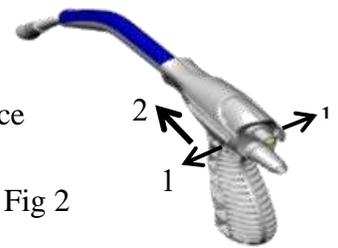

Fig 2
12. To remove the pistol grip, spread the tabs on the proximal (1) end of the pistol grip to release and slide the pistol grip distally (2) down the device to remove. (Fig 2).